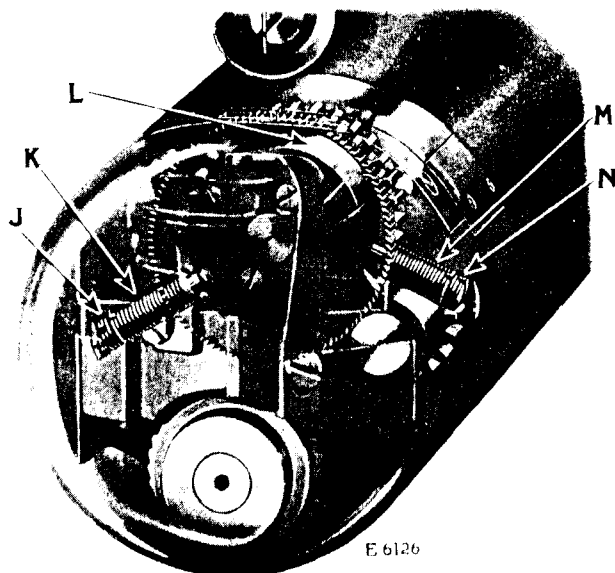

Fig. 12. "X-Ray" View of End of Cylinder Bed Showing Adjustments for Raising and Lowering Feed Wheel
The height of the feed wheel is regulated by the two adjusting screws (K and M, Fig. 12), one of these screws being located at
each side of the cylinder in line with the feed wheel bracket (L, Fig. 12). At the back of each adjusting screw is a check screw as shown at J and N in Fig. 12. Remove both of these check screws. To raise the feed wheel, turn the adjusting screw (M) to the left, then turn the adjusting screw (K) to the right until the feed wheel is at the desired height, then turn the screw (M) to the right until it lightly touches the bracket. To lower the feed wheel, turn the adjusting screw (K) to the left until the feed wheel is at the desired height, then turn the adjusting screw (M) to the right until it lightly touches the bracket (L). Replace the two check screws (J and N, Fig. 12) and securely tighten them against the adjusting screws.